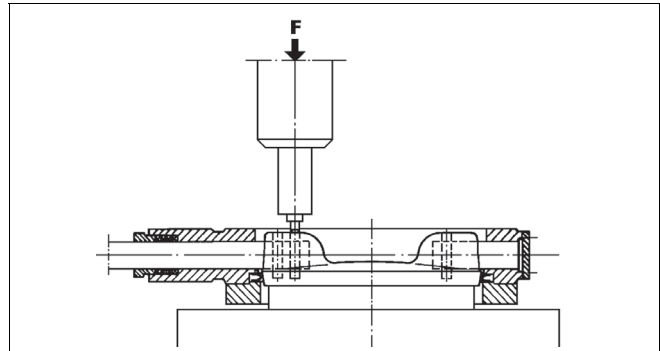

Fig. 19 Pressing the pins
- Support the disc well in a horizontal position during mounting of the pins. Push the new pins into the holes and press them in a press to final form (see Fig. 19). Use a smaller tool than the pin diameter. See Table 6 for force needed.